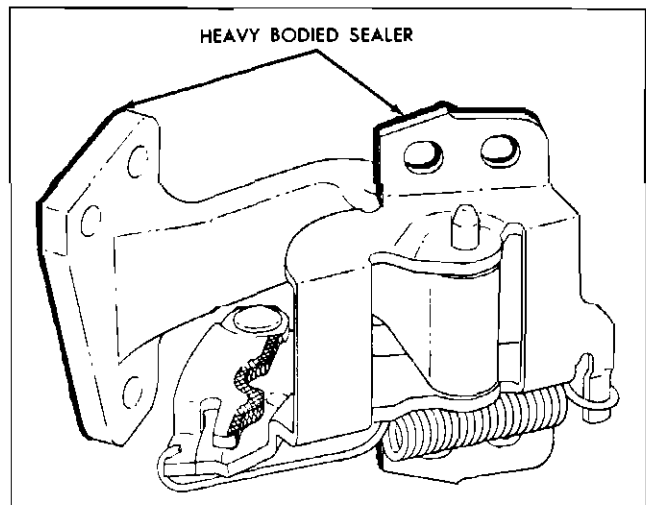

Fig. 2-14 Front Door Hinge Anti-Squeak
1. As an anti-squeak precaution, before installing door, coat attaching surface of hinge with heavy-bodied sealer (See Fig. 2-14).